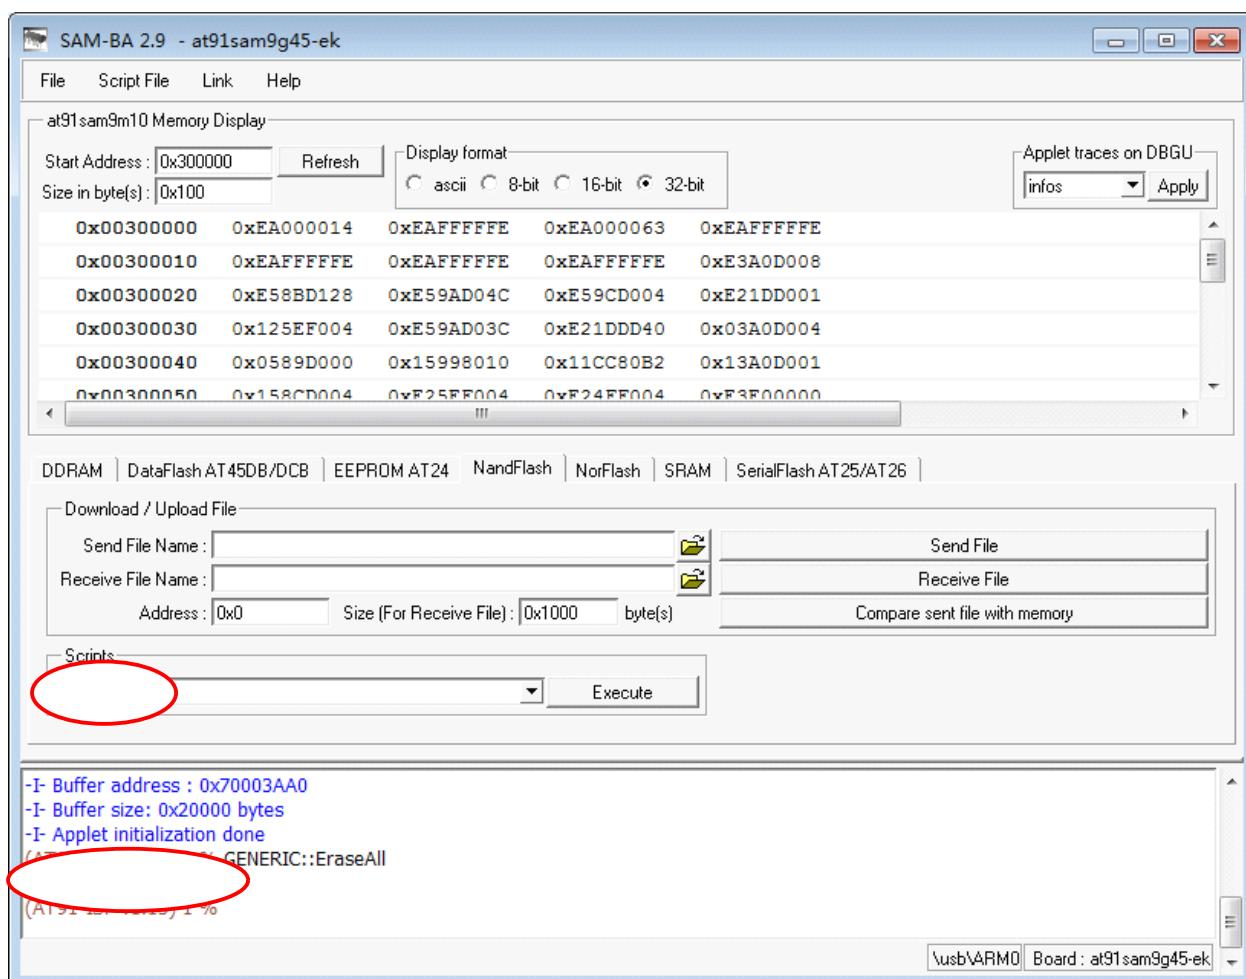

Figure 12.2.5
- As shown in Figure 12.2.5 in the Scripts pulldown menu of SAM-BA v2.9, select Erase All, click Execute button in SAM-BA v2.9, SAM-BA v2.9 will automatically erase entire NAND flash. After the Erase operation is successful, the interface as shown in Figure 12.2.5 .